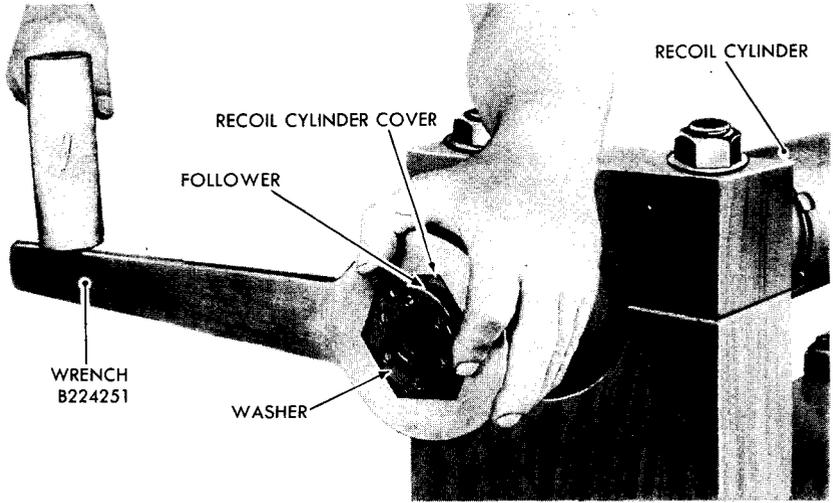
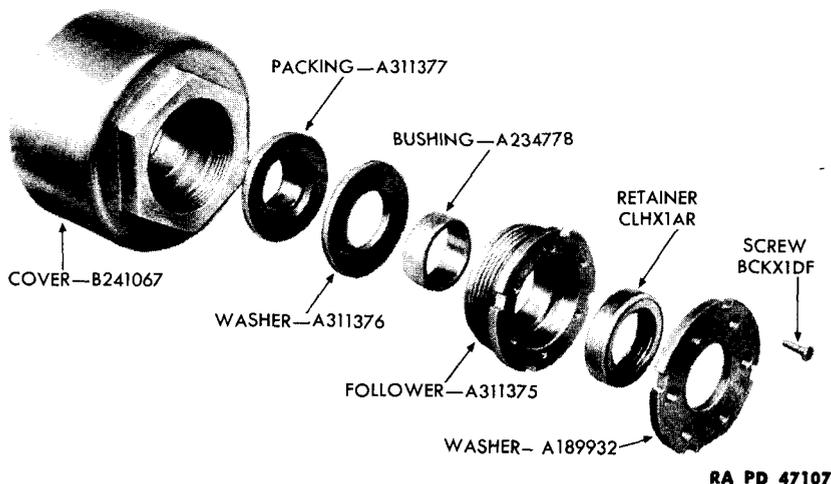
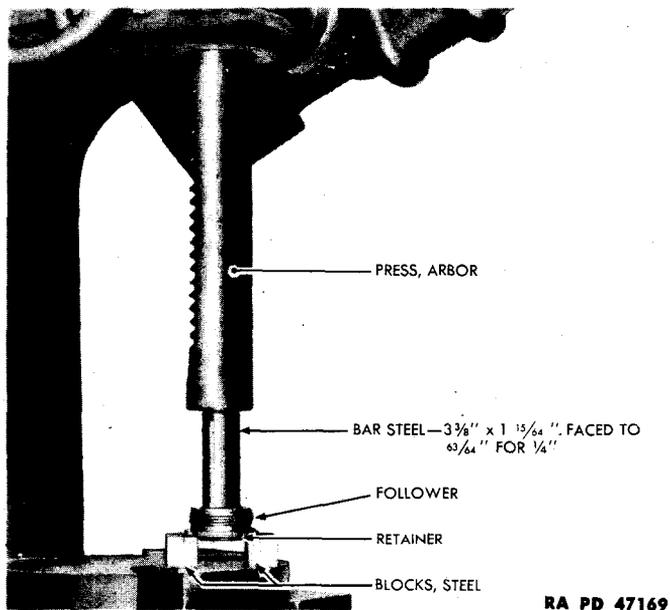

Figure 79 – Removing Recoil Cylinder Cover Assembly
Figure 80 — Recoil Cylinder Cover — Exploded View
Figure 83 — Removing Retainer and Bushing from Follower
d. **Remove Recoil Cylinder Cover Assembly.** Loosen follower (adjustable spanner wrench TKLX1A) (fig. 78) to which is assembled a washer. Then remove cover (wrench B224251) (fig. 79). It is necessary to jar cover loose by striking wrench handle with a heavy hammer. **NOTE:** The following parts are assembled to cover and are removed with cover: washer, six screws, follower, retainer, bushing, washer, and packing (fig. 80).
g. Disassembly of Recoil Cylinder Cover. Remove follower (adjustable spanner wrench TKLX1A) from cover (fig. 78). Remove six screws that secure washer to cover (fig. 80) and lift fiber washer from cover. Pry out leather washer from cover. Pry out packing from cover. Press out retainer and bushing from follower (par. 36 b (4)).
(1) Clean all parts thoroughly with SOLVENT, dry-cleaning, and dry with compressed air or CLOTH, wiping.
(2) Visually inspect buffer screw. If threads are flattened or damaged, file threads. Inspect screwdriver slot. If burred, remove rough edges with mill file.
(3) Visually inspect spring. If broken, replace. Examine end coils of spring. If burred, remove burs with mill file.
(4) Visually inspect valve. All openings and orifices should be clean and free from dirt and foreign matter. If valve openings are clogged, use a $\frac{1}{16}$ -inch wire to remove dirt and foreign matter. Inspect edges of valve. If burred, roughened, or scratched, smooth out with mill file and polish valve with CLOTH, crocus.
(5) Visually inspect nut. If threads are burred, remove burs. If corners of nut are rounded or damaged, straighten edges of nut by filing.
(6) Visually inspect washer. If torn or distorted, replace.
(7) Visually inspect packing. If torn or damaged, replace.
(8) Visually inspect gasket while installed in buffer. If damaged so that it fails to seat properly and thereby causes leakage, notify proper personnel so that gasket can be removed on a lathe. Replace with new gasket.
b. Inspection and Repair of Cover Assembly (fig. 80).
(1) Visually inspect cover. If corners of nut end of cover are roughened or burred from use of loose fitting wrenches, remove roughened or burred surfaces. Examine internal threads. If burred, clean out threads.
(2) Examine packing. If distorted or torn, replace packing.
(3) Examine washer. If distorted or torn, replace washer.
(4) Examine bushing which is assembled inside follower and if burred, remove burs and polish with CLOTH, crocus. If bushing is worn, drive out bushing (fig. 83). Place follower on two steel blocks (1 inch square by 4 inches) in arbor press in such a manner that the steel blocks will support follower and allow retainer and bushing to be pushed downward between the steel blocks and out of follower. Place small end of improvised driving tool (round steel bar, $3\frac{3}{8}$ by $1\frac{5}{6}$ inches faced to $\frac{6}{64}$ inch for $\frac{1}{4}$ inch) in follower and against bushing. Pull handle of arbor press downward and drive out retainer and bushing from follower.
(5) Examine threads of follower (fig. 80). If burred, remove burs. Examine screw holes in follower. If damaged, recut threads.
(6) Examine retainer. If scored or burred, replace retainer.
(7) Examine fiber washer. If distorted or torn, replace washer.
c. Install Recoil Cylinder Cover on Sleeve. The following parts are assembled to the cover and are installed with the cover: packing, washer, bushing, retainer, follower, six screws, and washer (fig. 80). Screw cover onto sleeve (wrench B224251) (fig. 79). Tighten cover securely by tapping wrench.